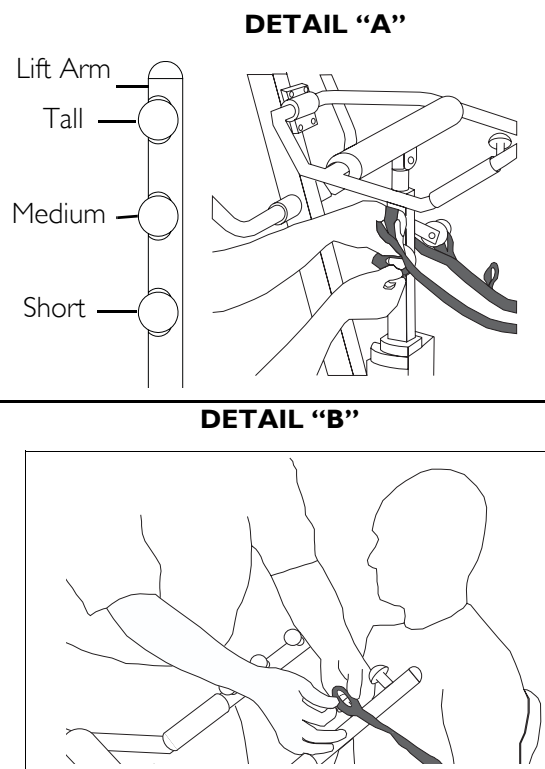
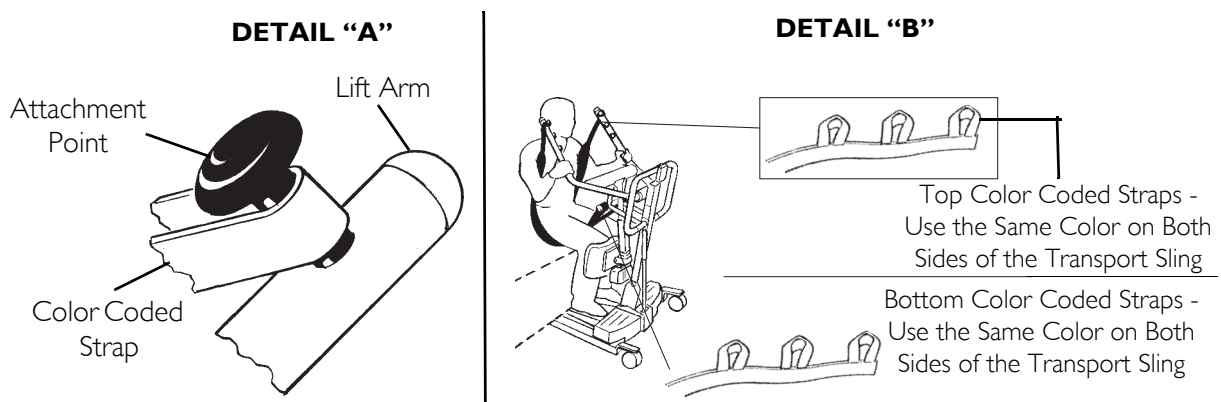

FIGURE 7.6 Attaching Slings to the Stand Up Lift - Transport Slings
FIGURE 7.7 Attaching Slings to the Stand Up Lift - Transport Slings
NOTE: For this procedure, refer to FIGURE 7.6 and FIGURE 7.7 on page 29.
Make sure the color coded strap sits flush against the attachment knob in Detail “A” of FIGURE 7.7 on page 29, otherwise injury or damage can result.
- The transport sling is wrapped around the outside of each lift arm. Refer to Detail “B” of FIGURE 7.6 on page 28.
- The closest color coded strap to the patient is used to maintain stability and comfort. Refer to Detail “B” of FIGURE 7.6 on page 28.
- The colored coded strap sits flush against the attachment knob. Refer to Detail “B” of FIGURE 7.7.
- The same top color coded strap is used on each side of the transport sling. Refer to Detail “A” of FIGURE 7.7
- The same attachment point is used on each lift arm. Refer to Detail “B” of FIGURE 7.6 on page 28. Refer to Detail “B” of FIGURE 7.7